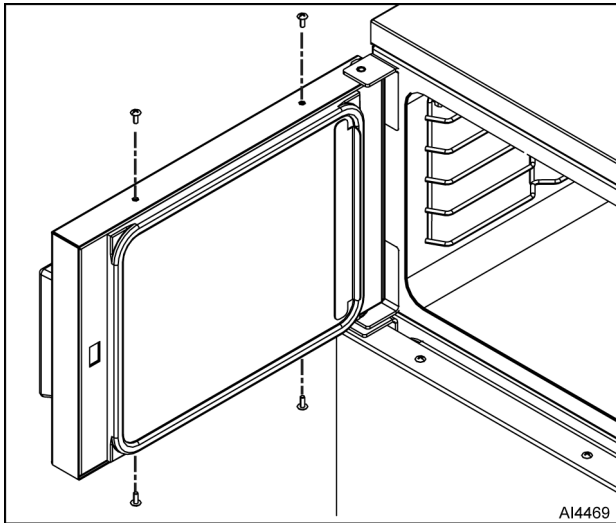

Fig. 13
2. Remove four screws from locations noted in Fig. 13.